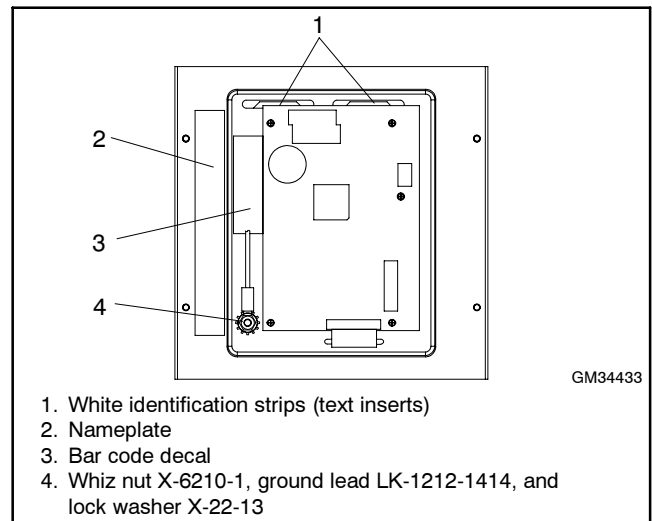

Figure 12 RSA Front Panel Assembly Ground Connection (Back View)
3.2 Remove four screws X-67-154 from the RSA front panel assembly GM34433-1 or GM34433-2. Detach the RSA front panel from the box by removing whiz nut X-6210-1 and ground wire LK-1212-1414 at the front panel cover; see Figure 12.